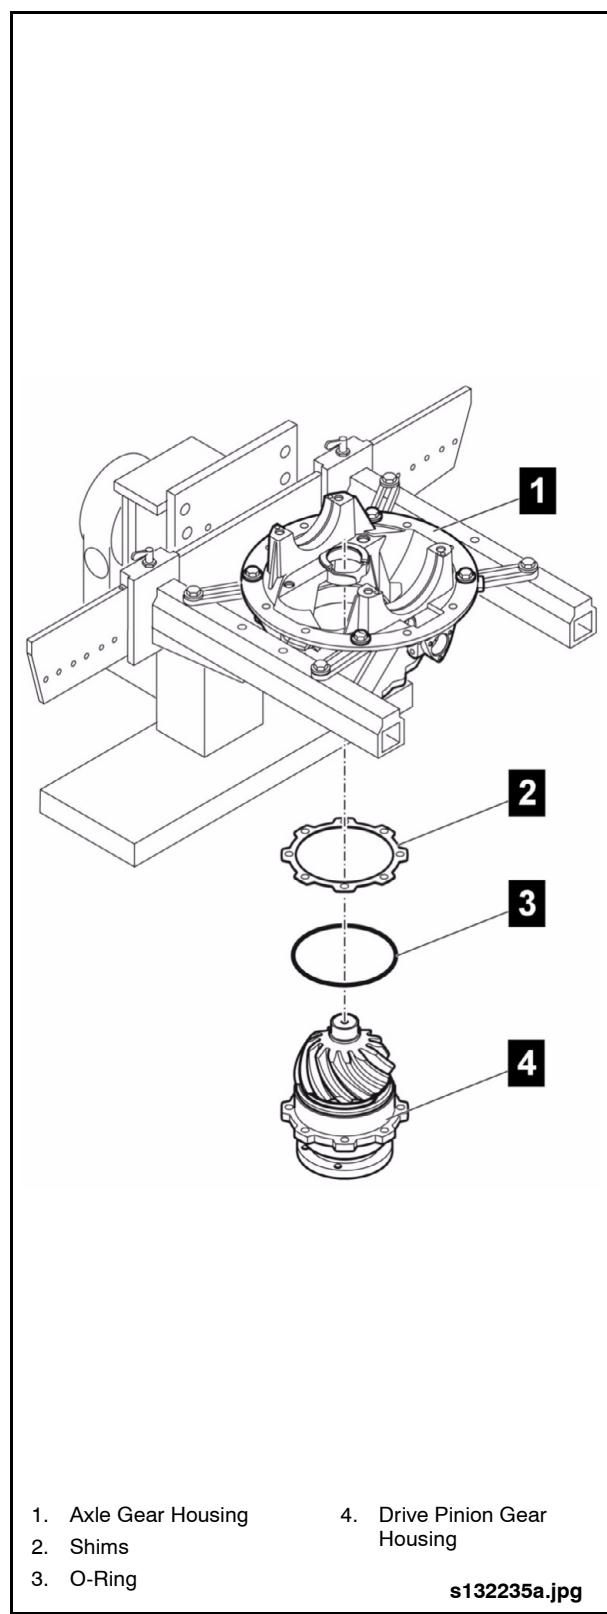

Fig. 2-78: Pressing Out Drive Pinion Gear Housing
4. Rotate the axle gear housing 180° so that the input flange is facing down. See "Fig. 2-78: Pressing Out Drive Pinion Gear Housing" on page 64.